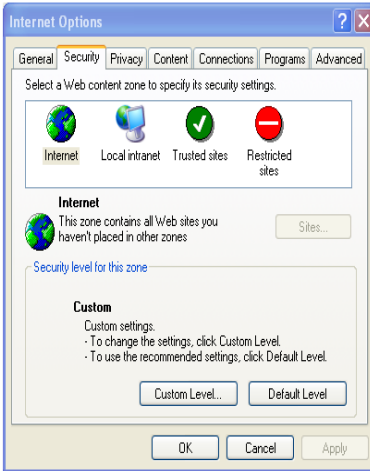

Fig 4-1
① Open IE browser. Click Tools-----Internet Options....
② Select Security-----Custom Level....Refer to Fig 4-1